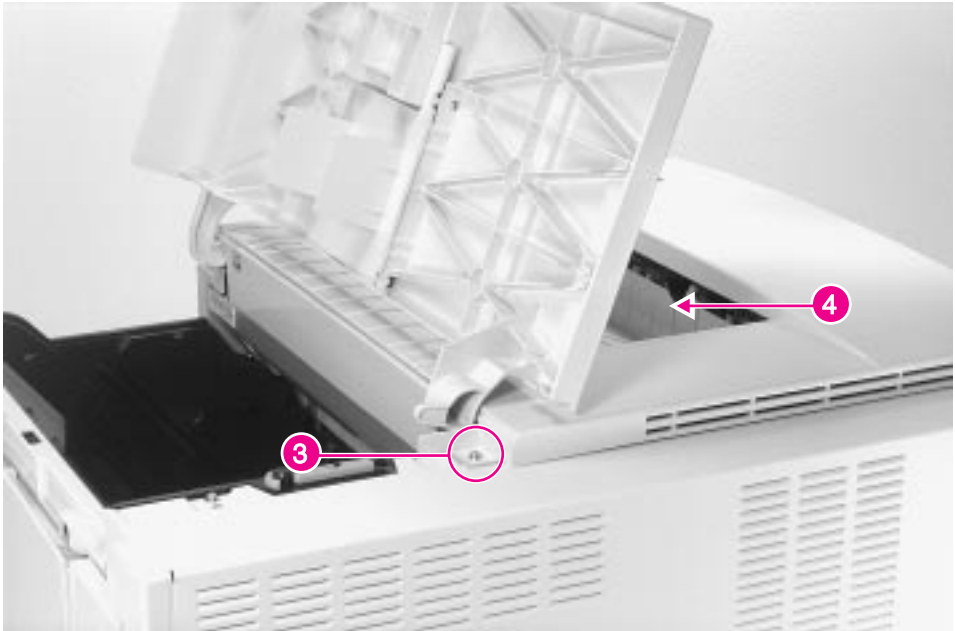

Figure 6-10 Top Cover (2 of 2)
- 3 Open the top cover door, and remove 1 screw (figure 6-10, callout 3).
Be careful not to damage the Standard Output Bin Full sensor flag (figure 6-10, callout 4) when removing the top cover.
Be careful not to damage the Standard Output Bin Full sensor flag (figure 6-10, callout 4) when replacing the top cover.
- 2 See figure 6-10, callout 4. Slide the Standard Output Bin under the Standard Output Bin Full sensor flag, and make sure that the cam (figure 6-10, callout 4) at the rear of the top cover door is properly positioned while lowering the top cover into place.